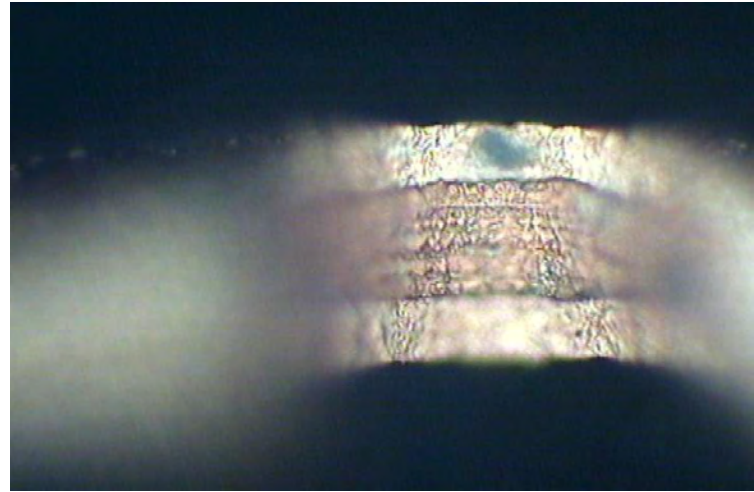

Figure 4: Front light evaluation, showing no copper voiding issue.
It is recommended that both front light (FL) and back light (BL) testing be included in the fabricator's routine quality control protocol. The FL technique is particularly useful because this test helps to determine the location of the voiding. Figure 4 shows an example without voids.